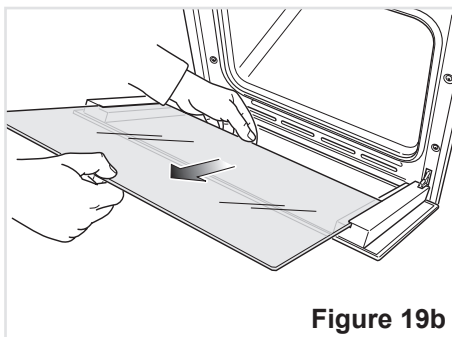

Figure 19b
- Gently pull out the inner pane of glass (Fig. 19b).